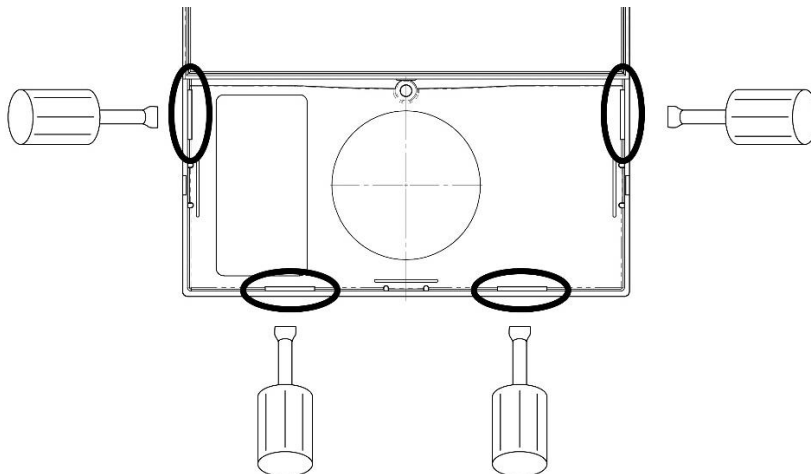

Fig. 3.11 - Opening the housing - Step 3
- On the four slots in the front part as indicated in Fig. 3.11, press the edges outwards so that the tabs underneath release, and remove the front part from the rear part.